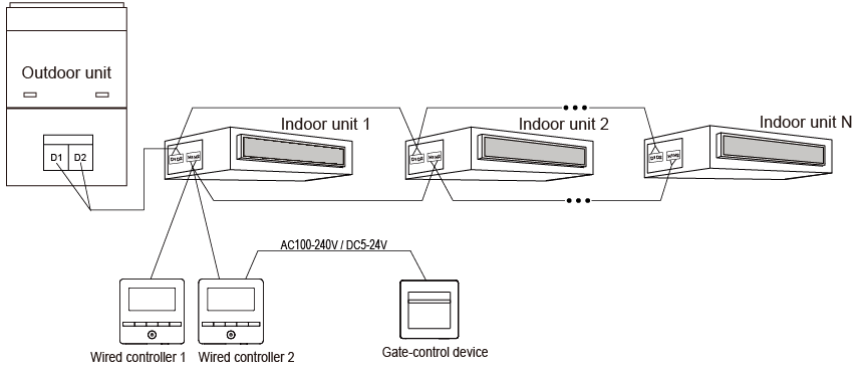

Figure 3.11 Connection fashion 2 of Wired Controller and Gate Control
- ① Wired controller 2 in figure 3.11 can be set as master controller or slave controller;
- ② Wired controller 1 in figure 3.11 can be model XK49 or other models.